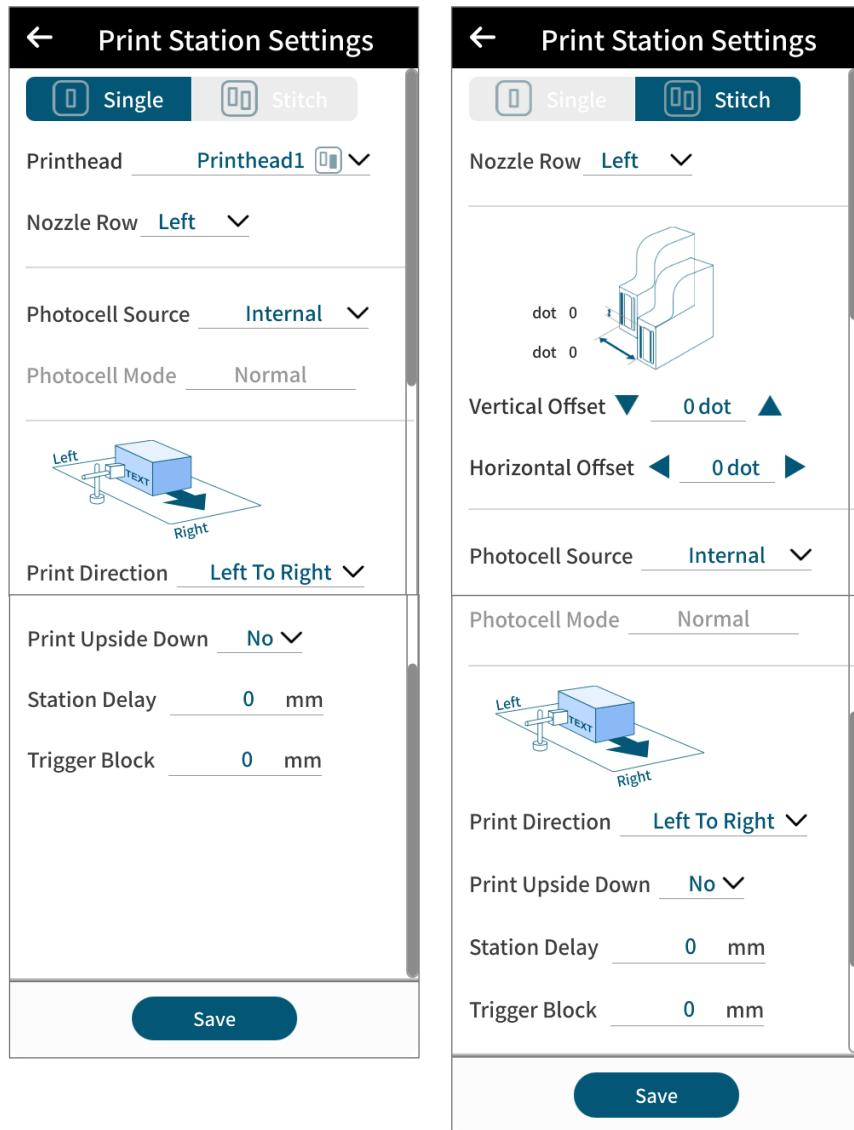

**Figure 2-2. Production Line — Encoder Settings**
- c. Production Line speed settings. Please see the **Figure 2-2** below.